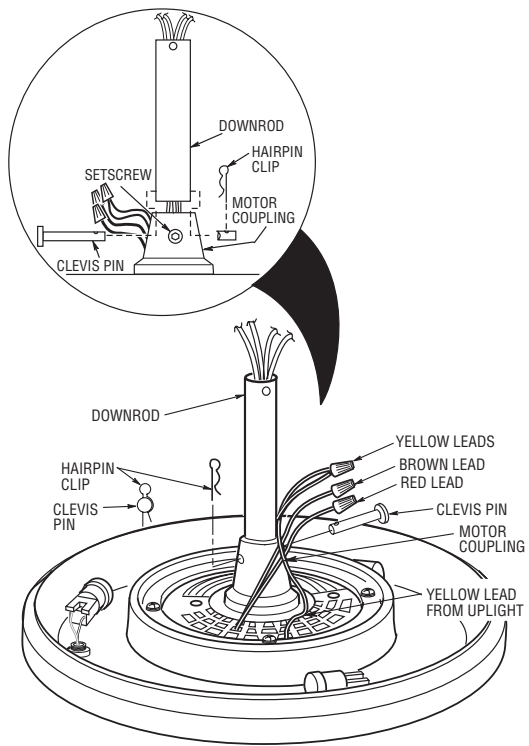

Figure 2
4. Route the white, blue, and black motor leads through the downrod. Fold the yellow wire into the slot in the motor coupling, slide the downrod down the wires and seat the downrod in the motor coupling (Figure 2).
5. Align the clevis pin holes in the downrod with the holes in the motor coupling. Install the clevis pin and secure with the hairpin clip (Figure 2). The clevis pin must go through the holes in the motor coupling and the holes in the downrod. Push the straight leg of the hairpin clip through the hole near the end of the clevis pin until the curved portion of the hairpin clip snaps around the clevis pin. The hairpin clip must be properly installed to prevent the clevis pin from working loose. Pull on the hanger ball to make sure the clevis pin is properly installed.